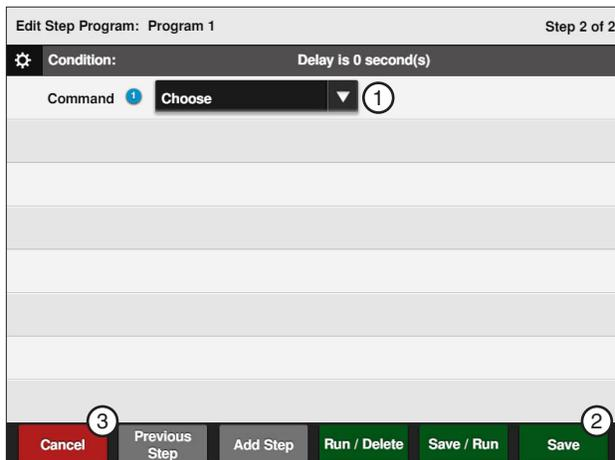

Figure 92-3 1. Choose Command Drop-Down 2. Save 3. Cancel
8. Finish the program by selecting one of the following. Refer to Figure 92-3.